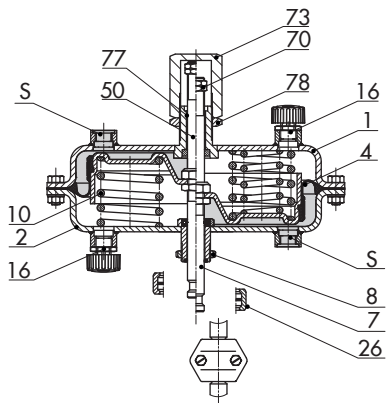

Fig. 13: Type 3271 with adjustable travel stop
- **Type 3271 · Travel stop** (Fig. 13), minimum and maximum travel mechanically adjustable in versions with 175v2 to 750v2 cm²
The adjustable **mechanical travel stop** (Fig. 13) is suitable for actuators with actuator areas of 120, 175v2, 240, 350v2, 355, 700 or 750v2 cm². Using the travel stop, the actuator travel can be limited by up to 50 % in both directions (actuator stem extends or retracts) and permanently adjusted.